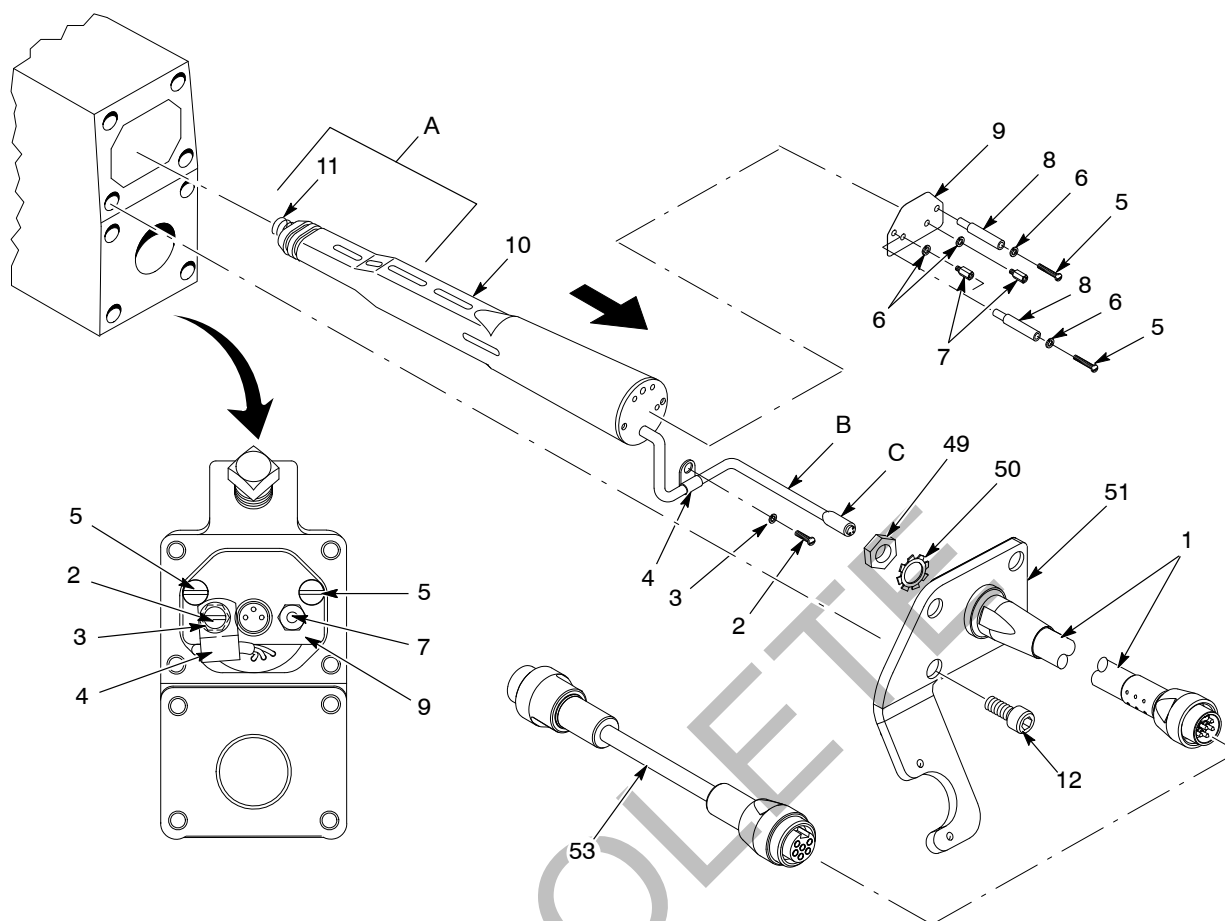

Figure 7-7 Multiplier and Electrostatic Cable Replacement
3. See Figure 7-7. Remove the four socket screws (12) securing the bracket (51) to the piston block body.
4. Unplug the electrostatic cable (1) from the multiplier connector (C).
5. Remove the two upper screws (5), spacers (8), and lock washers (6) located inside the piston block body cavity.
1. See Figure 7-7. Make sure that the contact spring (11) is in place. Apply a liberal coating of dielectric grease (A) to the contact spring and front $\frac{1}{3}$ of the multiplier.
See Figure 7-7.